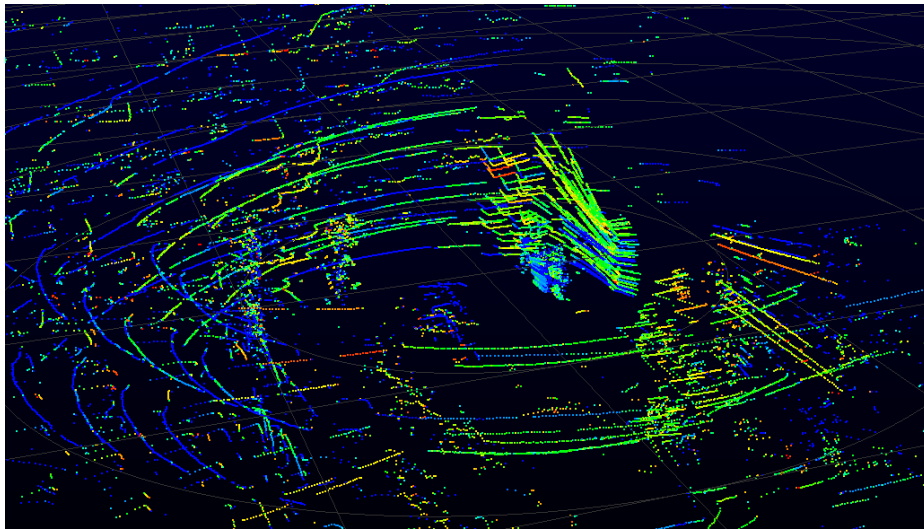

Figure 7 : Distorted point cloud due to wrong configuration file
- The outputted point cloud should be distorted because of the wrong vertical angles corrections like in **figure 7**.